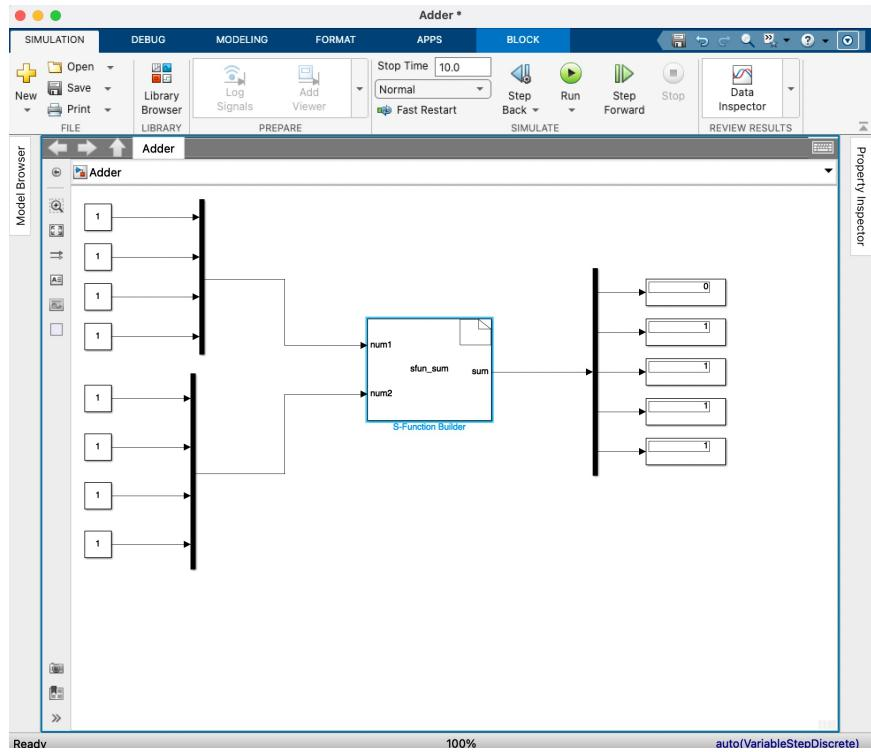

Figure 6: Eight-bit adder S-function input and output.
9. Your S-function block should now be updated with the input and output ports. Complete the model as shown in figure 6. Change the data types of the constant blocks to Boolean and run the simulation.